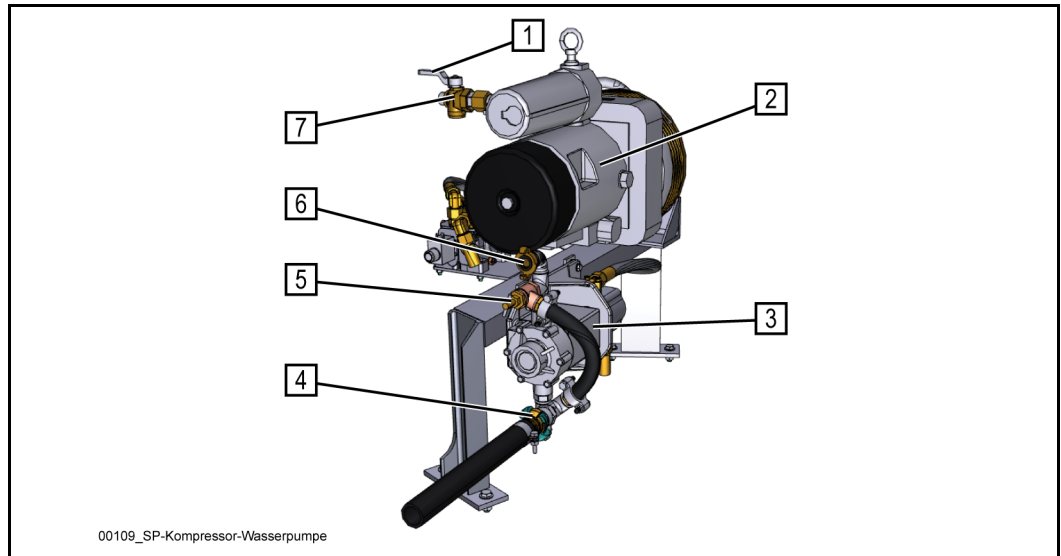

Fig. 92 Compressor - Water pump
The machine can be equipped with a rotary compressor (2) (**Fig. 92**) (special equipment). Theoretically, the compressor provides 900 l of air per minute against a pressure of 10 bar.
- Attach a suitable pressure hose to the junction (7) (**Fig. 92**).
- Set the operating speed of the diesel engine and regulate the air flow rate by opening and closing the air drain cock (7) (Fig. 92) in the pressure line.
Water can collect in the compressor (2) (**Fig. 92**) and cause damage.